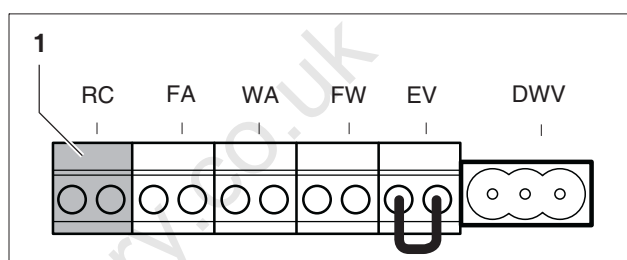

fig. 65 Terminal strip - Room controller RC and EMS bus (connection colour orange)
- Connect the EMS bus connection cable to the orange connection of the terminal strip (fig. 65, item 1).